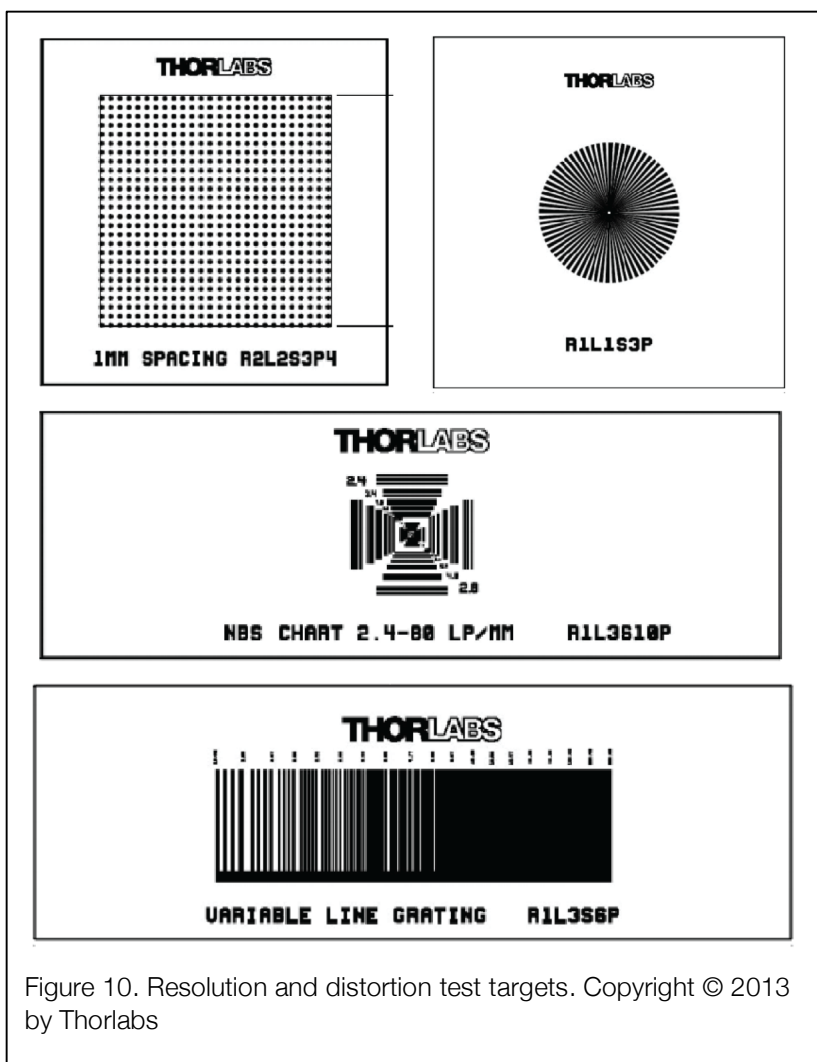

Figure 10. Resolution and distortion test targets. Copyright © 2013 by Thorlabs
- Using the calibrated ruled grating sample (Figure 10), take an image of the grating and use it to determine a pixel to mm conversion
- Using the variable line grating (Figure 10), obtain a series of images in the object plane and in the back focal plane of different grating spacings